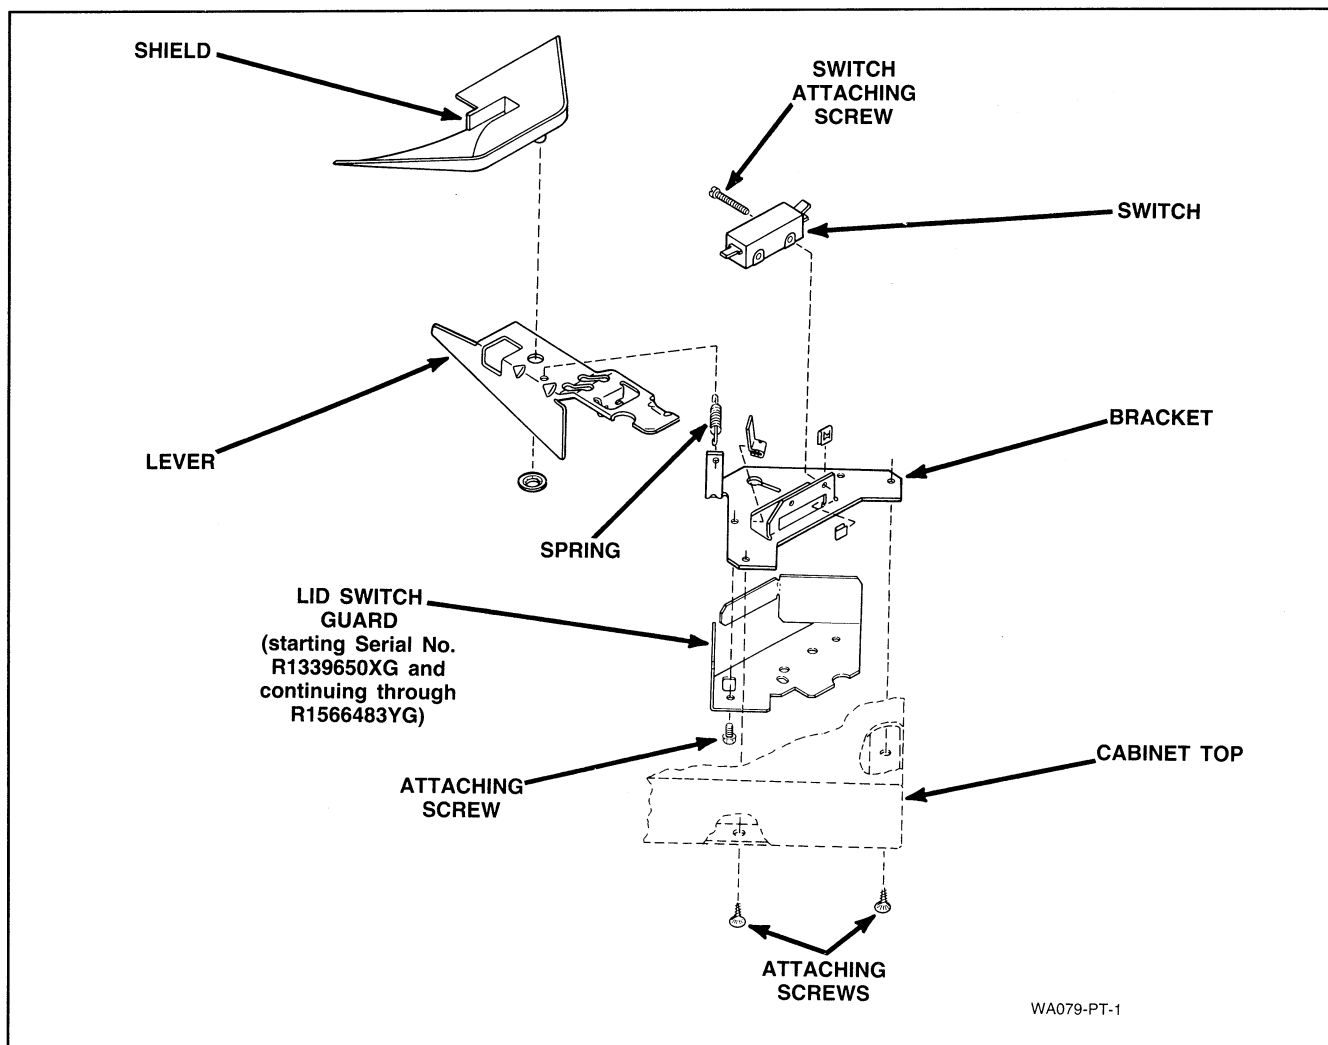

Figure 25
23. DOOR AND OUT-OF-BALANCE SWITCH AND BRACKET ASSEMBLY (Refer to *Figure 25*)
NOTE: Starting with Serial No. R1339650XG and continuing through R1566483YG, a guard was added to the lid switch and bracket assembly, *Figure 25*. If the lid switch and bracket assembly are removed for service and the guard is removed, the guard **MUST** be reinstalled on the lid switch and bracket assembly to reduce the risk of an electric shock.